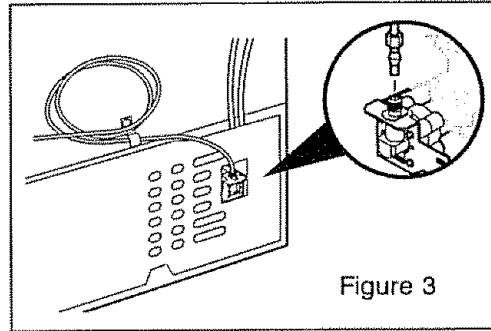

Figure 3
4. Secure copper tubing with STEEL CLAMP and screw to rear panel at location shown (Figure 3).
5. Coil water supply tubing as shown (Figure 3).
6. Turn on water supply and check all connections for leaks (Figure 3).